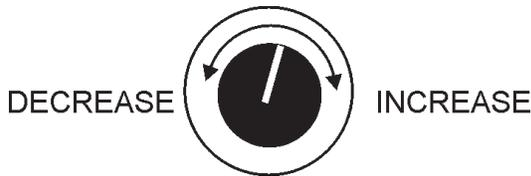

Figure 47. Voltage Adjust Control Knob
6. The generator's AC-voltmeter (Figure 47) will display the generator's output in **VOLTS**. If the voltage is not within the specified tolerance, use the voltage adjustment control knob (Figure 47) to increase or decrease the desired voltage.